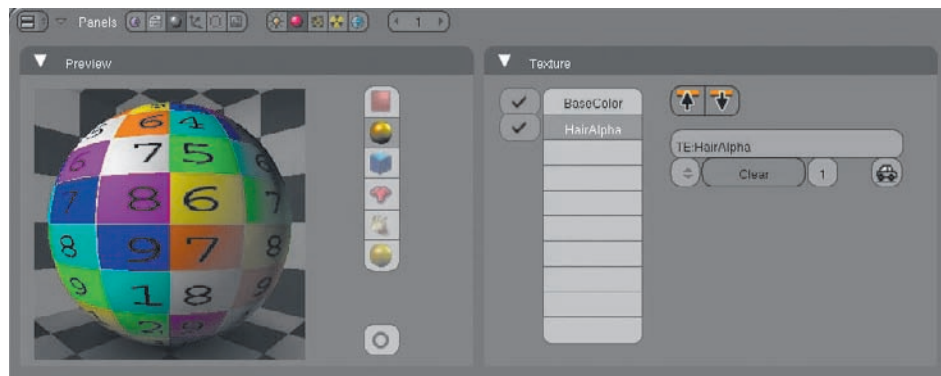
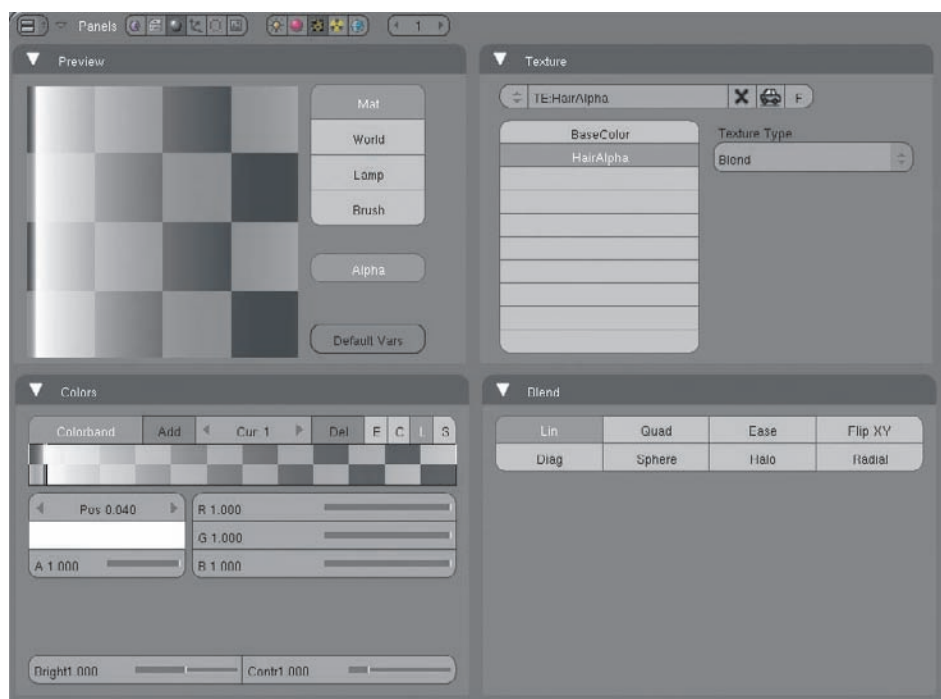
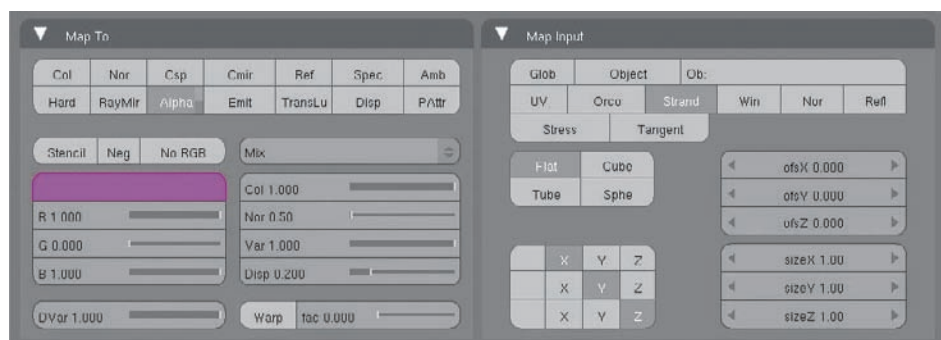

Figure 4.11 Add a texture to the hair material.
Figure 4.12 The alpha texture colorband
Figure 4.13 Mapping for the alpha texture
5. What you have so far is sufficiently dense, but it does not look convincing, because each strand is too uniform in its appearance along its length. Real hair tends to become finer at the ends, and in some cases splits almost imperceptibly, creating the illusion of a smooth transition between hair tips and the background. In reality, individual hairs are much finer than the size of a pixel in most images. For this reason, it is necessary to simulate the wispy appearance of hair by tapering the alpha value along the length of the hair, so that the hair gradually disappears toward the tip. Do this by creating a second texture on the hair material as shown in Figure 4.11. I called this texture HairAlpha. In the Texture Buttons area, select Blend from the Texture Type drop-down menu. On the Colors tab, activate the colorband and add a third color to the colorband by clicking Add. Make two black colors with alpha 0 and one white color with alpha 1, and move the sliding colorband dividers so the colorband looks as shown in Figure 4.12. From left to right, this alpha gradation will represent the alpha gradation from the root to the tips of the hair. Notice that there is also an alpha gradation at the left side of the colorband, representing the root of the hair. This will help to minimize the abruptness of the hair root. Without any gradation here, visible roots are likely to look like doll hair or bad implants. With a brief taper of the alpha value at the roots, the hair will meet the scalp in a much more subtle way. It's not especially important in this sphere example, but in the next section's example, where a hairline is clearly visible, it will make a lot of difference. Map the texture to the Alpha value, using Strand mapping, as shown in Figure 4.13.